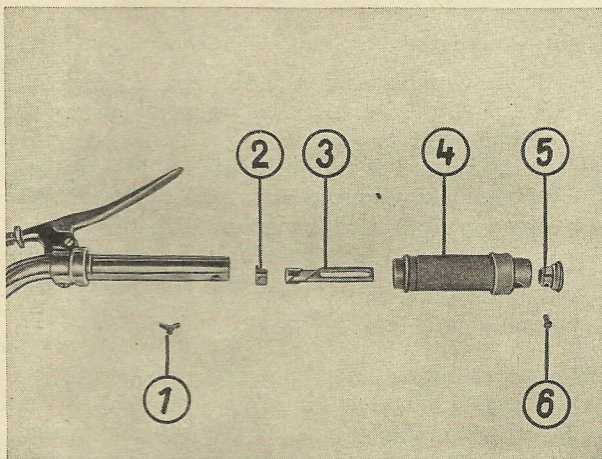

Fig. 21: Twist grip
1. Remove twist grip: turn back rubber cover, unscrew slot screw (fig. 21/6) (below the bore of twist grip tube), pull off end piece and twist grip (fig. 21/5). Unhitch gas cable first from throttle slide of carburettor and then from sliding core piece of twist grip (fig. 21/4). The ring (fig. 21/3) of the twist grip is then loosened by unscrewing the bigger slot screw and finally pulled off the handlebar.
2. The smaller screw on the twist grip ring (fig. 21/1) serves to brake the movement of the twist grip, if it shows a tendency to return automatically.